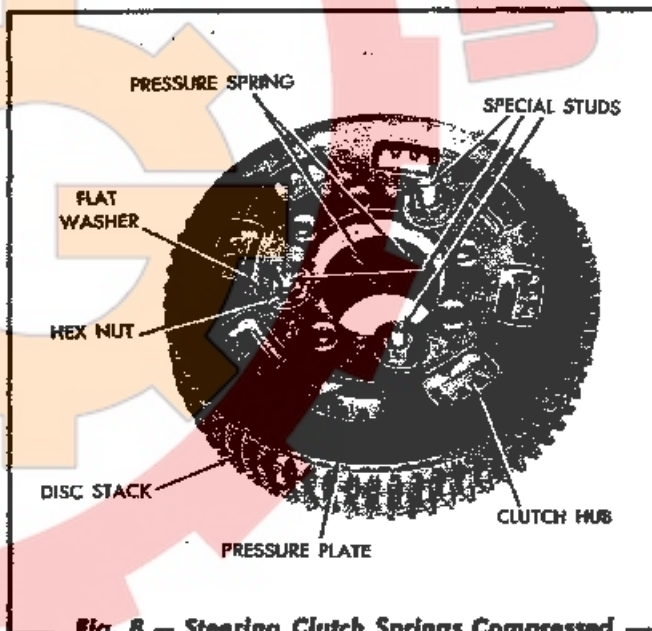

Fig. 8 — Steering Clutch Springs Compressed to Remove Cap screws
4. Refer to Fig. 8, remove the locking wires and three of the eight throwout plate cap screws, install the three special studs with the NC threaded end into the throwout plate, and install flat washers and hex nuts on the NF threaded end of the studs. Screw the nuts down tightly against the pressure plate until the tension of the springs is held by the three studs.